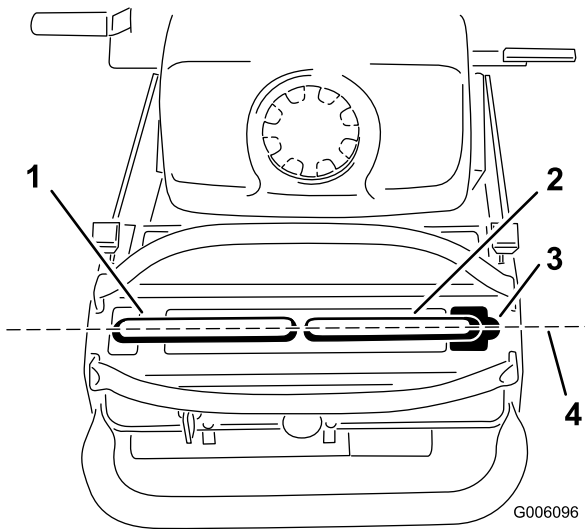

Figure 44
Important: Ensure the tracking of the mower is correct after adjusting the motion control levers. After adjusting the tracking, the motion control levers may not align the exactly front to back (Figure 44).
- After the horizontal alignment is finished, check the front to back alignment (Figure 44).